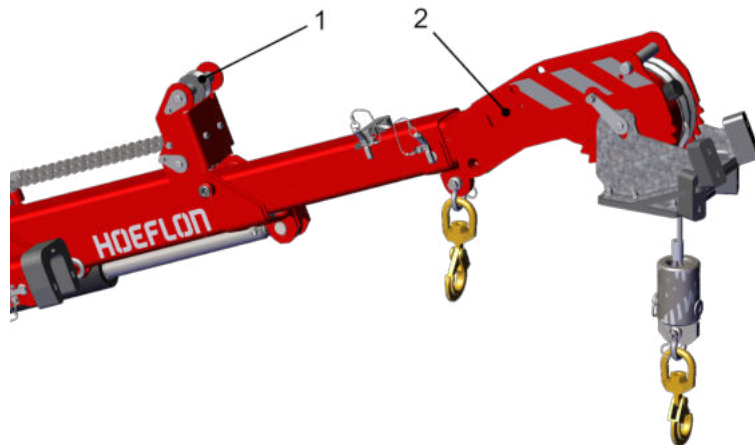

Figure 4.11 Routing the cable
4. Run the cable over the sheaves of the boom (1). Check that the cable has been run over the sheaves in the winch head correctly (see *Figure 4.11*).